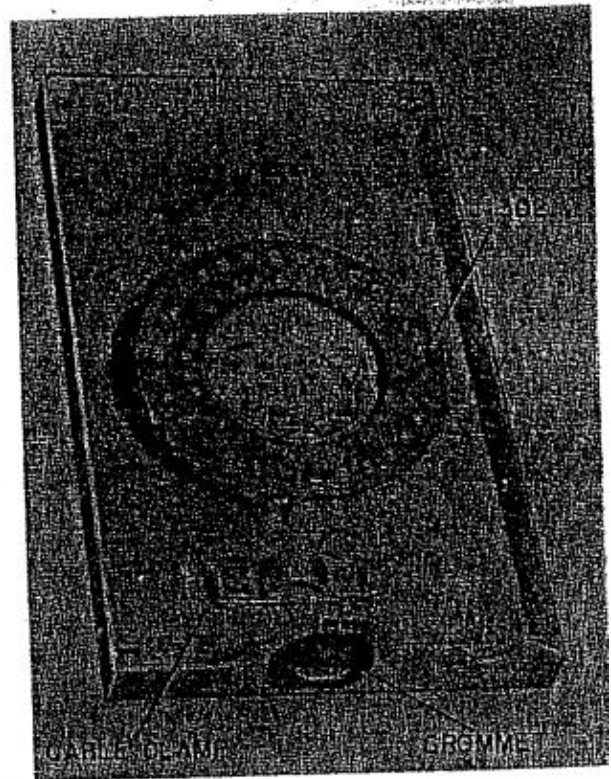

Figure 1-7. Mounting MT-275/ARN-6
e. **MOUNTING MT-275/ARN-6.** (See figure 1-7.)—Mounting MT-275/ARN-6 is a rectangular shaped aluminum box with an open top into which the control box mounts. A female connector provides electrical connections between the control box male connector plug and the interconnecting cables which enter through an opening in the bottom end of the mounting. Four holes are provided for attaching the mounting to the structure of the aircraft.